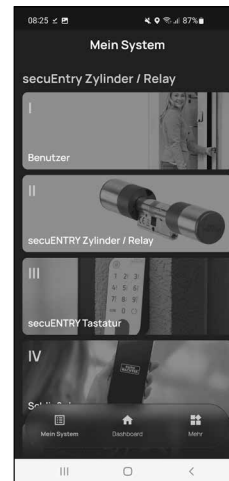

Fig. 8
- 5 You can now leave the menu (*I - User*). Return to the *"My System"* menu (Fig. 8).